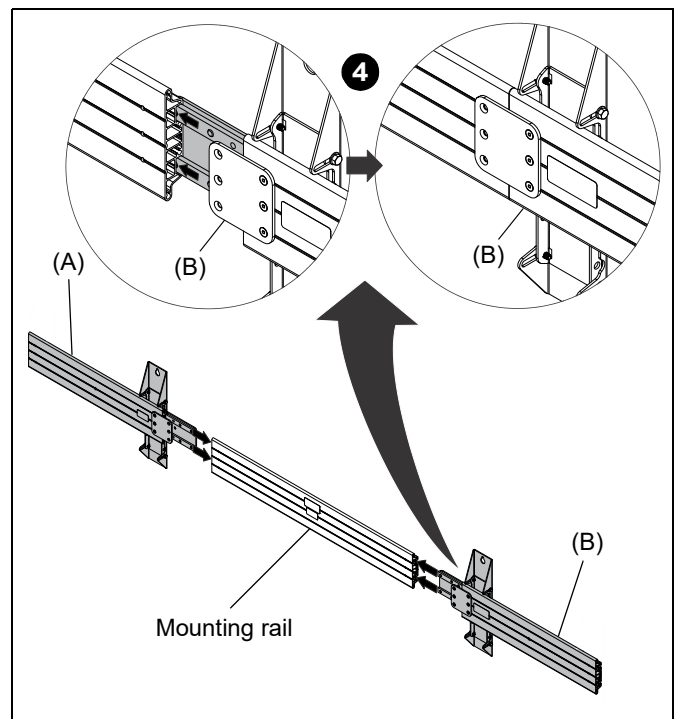

Figure 4
4. Slide the right (A) and left (B) extrusion assemblies into the open ends of the mounting rail, orienting the tie bars on the plates into the channels on the extrusions. Ensure both extrusion assemblies are flush against the mounting rail. (See Figure 4)